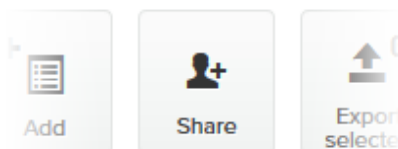

Figure 74. Plug-ins web page (Share button)
4. Click the **Share** button in the upper left-hand corner of the **Plug-ins** web page (Figure 74 (page 163)).